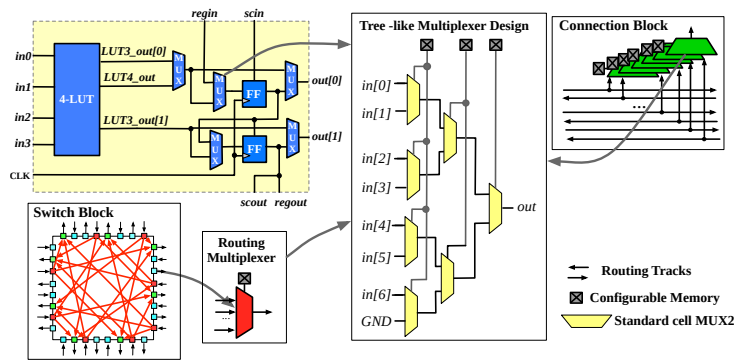

Fig. 3.14: Schematic of multiplexer design in SOFA HD FPGA
Routing multiplexers are designed by using the skywater *High-Density* (HD) 2-input MUX cell, as shown in Fig. 3.14. The tree-like multiplexer design is applied to all the routing multiplexers in logic elements, connection blocks and switch blocks across the FPGA fabric.